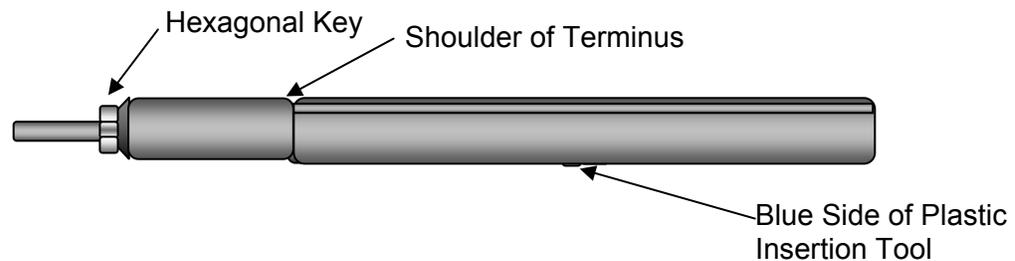

Figure 7-45 – Installing Terminus into Blue Side of the Insertion Tool
Step 1 - Place the terminus into the insertion tool (blue side) around the cable and slide up to the shoulder of the terminus See Figure 7-45.